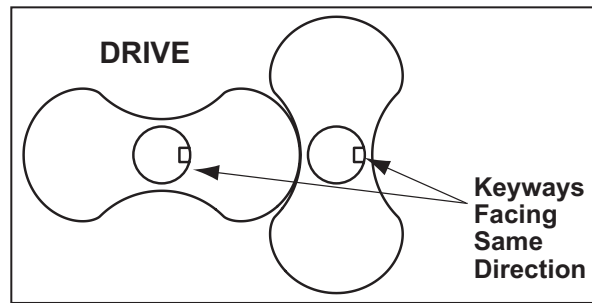

Figure 13 - Keyways position
3. Stand rotors [1] on arbor press table with gear end shafts up. See Figure 13. Two keyways should point in the same direction, to the right.